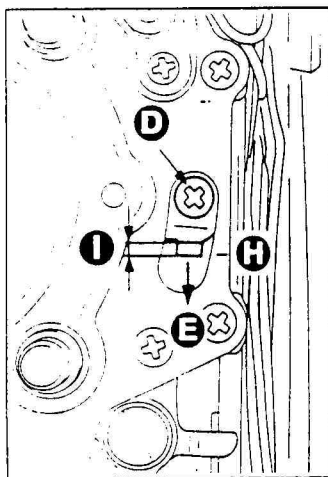
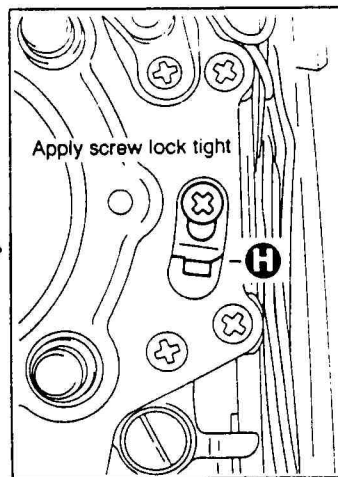

Fig. 6
Fig. 7
3. Next, loosen the screw ① and move the stopper ② a little in the arrow direction. Then, tighten the screw ① temporarily and repeat the step 2 again.
4. While repeating the steps 2 and 3, find out the position where you can release the shutter, and put the mark ⑤. (See Fig. 6.)
5. In the arrow direction move the stopper ② further from the position marked ⑤ to the position ⑥, which distance is equal to the thickness of the stopper ②.
At this position, tighten the screw ① finally and firmly. (See Fig. 7.)